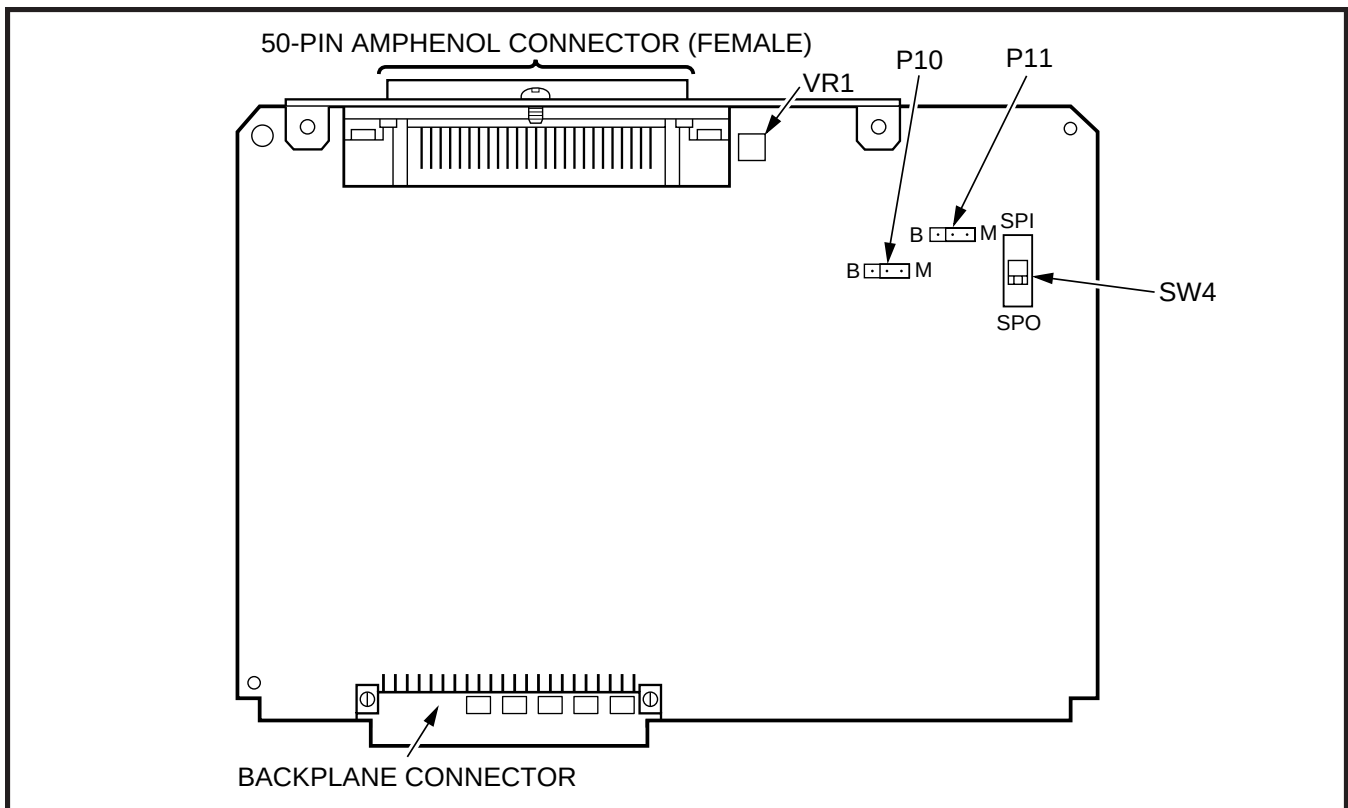

FIGURE 6-14
11.02 PEPU controls, indicators, and interface connectors are illustrated in Figure 6-14 and described in Table 6-I.